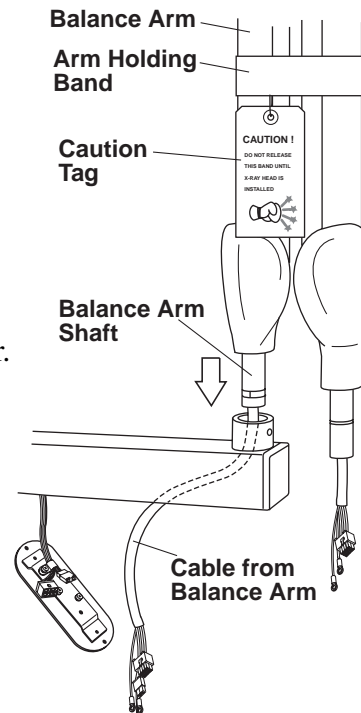

Fig.3-11 Balance Arm Installation
3. Route the cable with 2P and 8P connectors from the balance arm shaft through the horizontal arm. Insert the balance arm into the horizontal arm. The cable should be fed through the bottom cover opening on the bottom of the horizontal arm. (**Fig.3-11**)
6. Re-attach the bottom cover to the horizontal arm with two screws. (**Fig.3-11**)